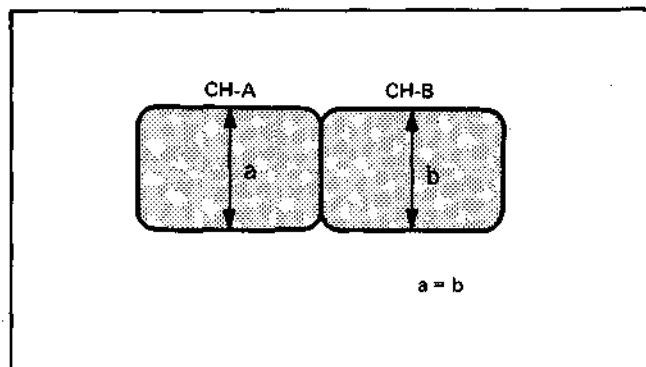

Fig. 1-30
- Match up CH-A and CH-B RF output levels with RP board CH balance. (Fig. 1-30)